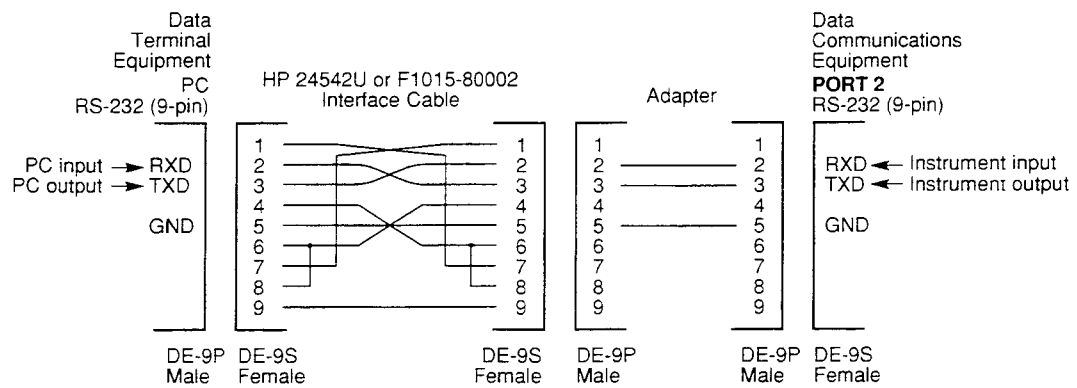

Figure 2-6. HP 24542U Interface Cable and a Straight-through Adapter Combination for Laptop/Palmtop PORT 2 Connection
*A “straight-through” type of 9-pin male-to-male adapter should be used with the HP 24542U or F1015-80002 interface cables when connecting a laptop, Omni Book, or palmtop to the HP 59551A Module’s front-panel **PORT 2** as shown in Figure 2-6. That is, pins 2, 3, and 5 of the adapter should be straight-through pin connections (no crossover pins).*